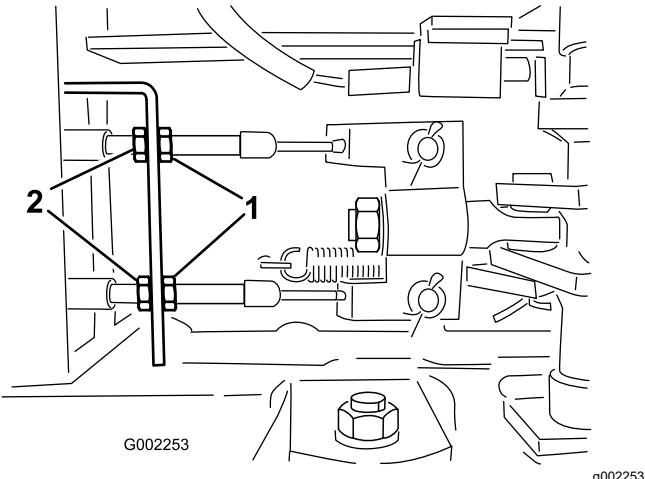

Figure 139
5. Loosen the front jam nuts on the brake cables under the front end of the sprayer (Figure 139).
6. Tighten the rear jam nuts equally until the brake pedal moves between 1 to 2 cm (1/2 to 1 inch) before you feel resistance (Figure 139).